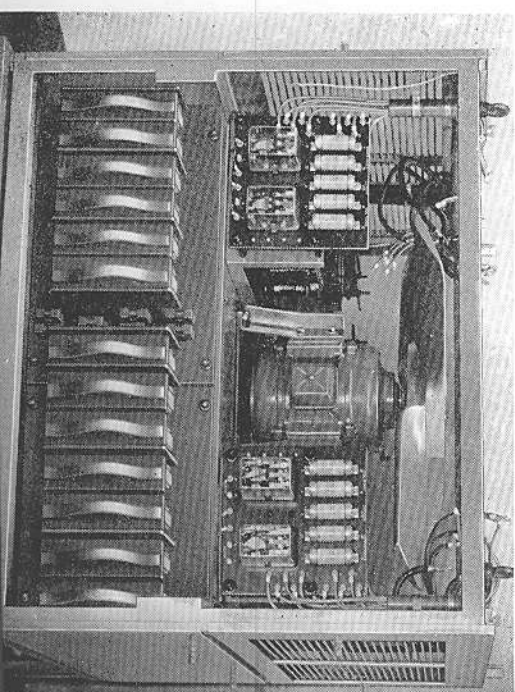

Fig. 19. A view of the base showing the main and auxiliary isolation features.
**Isolating a cubicle.** The cathode isolator (common to the four bulbs) is usually located in the centre of the row of anode fuses (see Figs. 19 and 21).